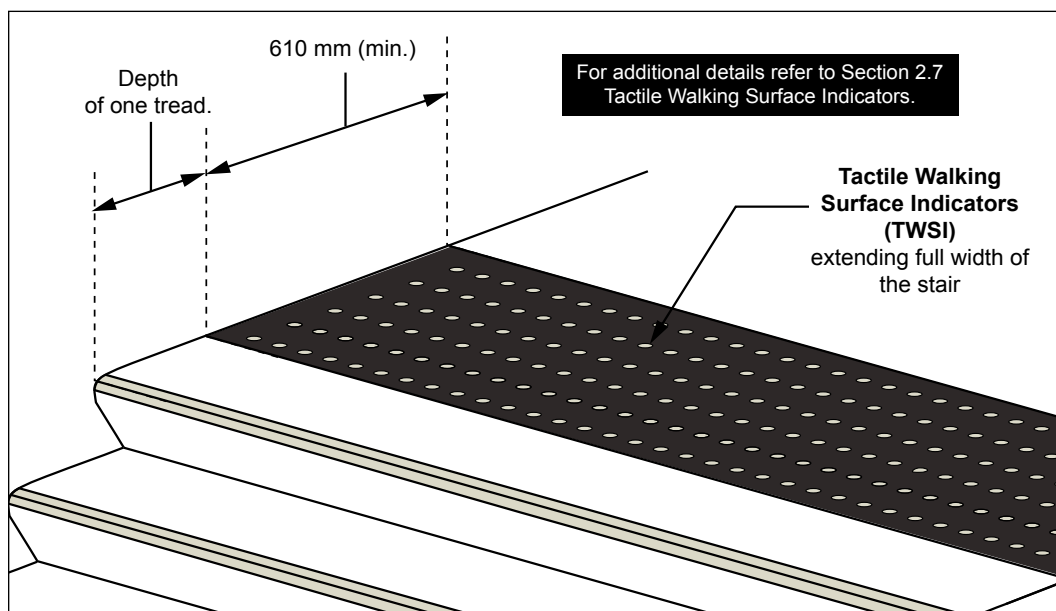

Figure 11: Tactile Walking Surface Indicators (TWSI) at Top of Stairs
- c. with surface depth of 610 mm (minimum), extending the full width of the stair (**Figure 11**).